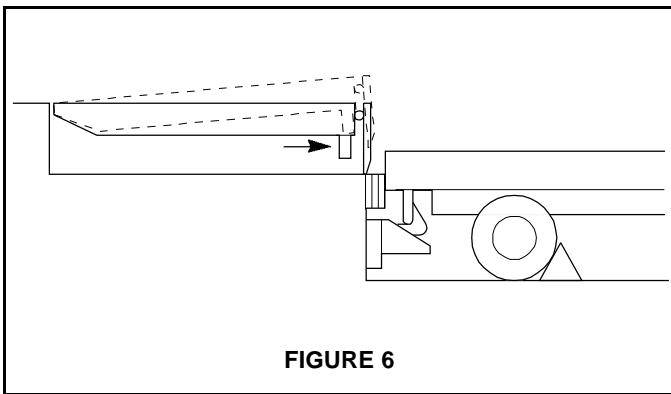

FIGURE 6
4. If the platform is higher than dock level, walk on the platform to return it to dock level. See Figure 6.
Always check to make sure that the emergency safety stops are in the safe (forward) position. Platform is now ready to safely carry dock traffic. Refer to Figure 6